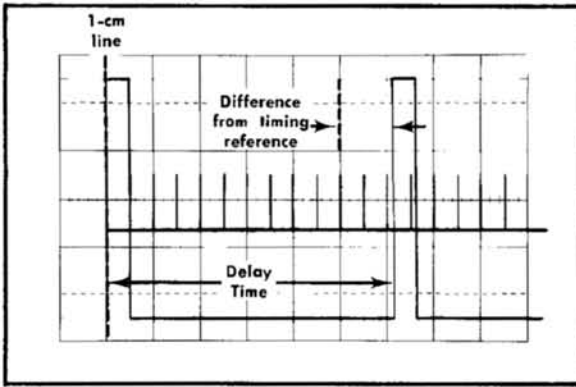

Fig. 5-20. Typical test oscilloscope display for checking delay timing adjustments; 500 μ s delay time.
- e. CHECK FOR—Test oscilloscope display of the paired pulses with a delay period of at least 500 μ s between corresponding points on the two pulses (5 cm), measured with respect to the time-mark waveform (see Fig. 5-20).